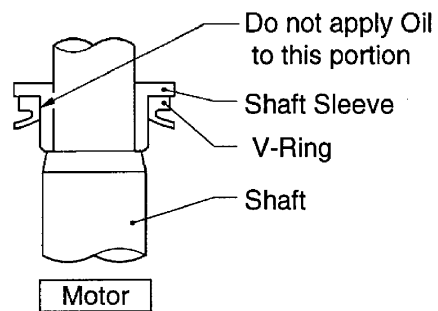

Fig. 1
- (1) First remove sand or other debris from the Impeller, Pump Casing, and Suction Cover before reassembly.
- (2) Install the V-Ring on the outside of the Shaft Sleeve, as shown in Fig. 1. During the installation, make sure not to apply Oil to the area in which the V-Ring contacts the Shaft Sleeve.